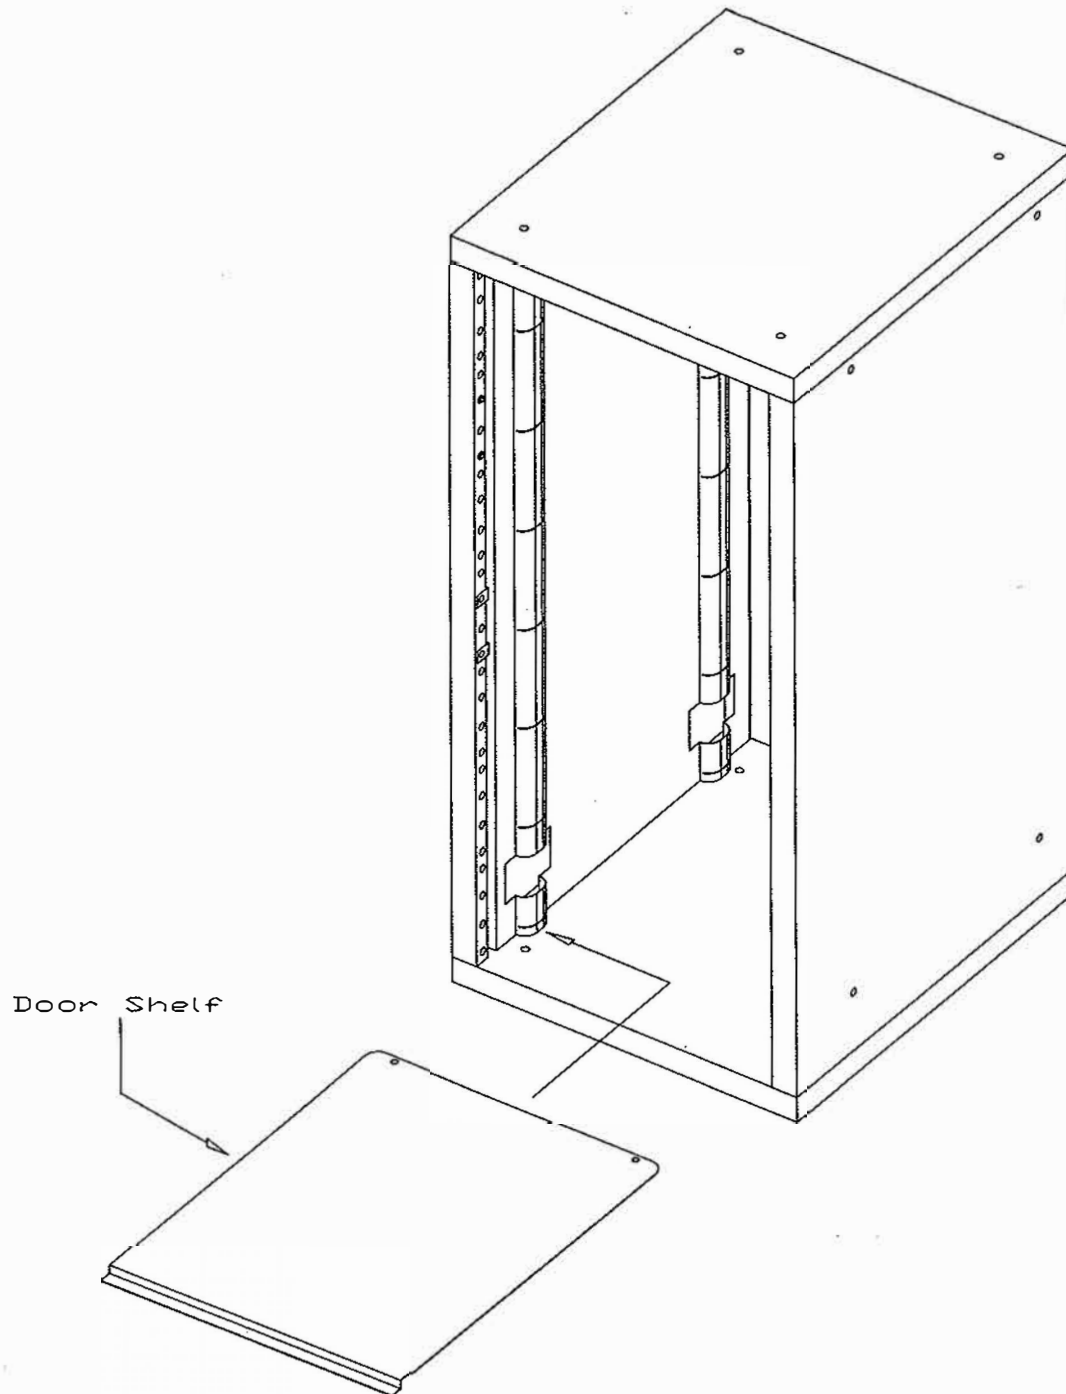

Figure 2
A) Select the Bottom Door. Slide the Shelf into the bottom slots of the Security Shell (See Fig. 2).